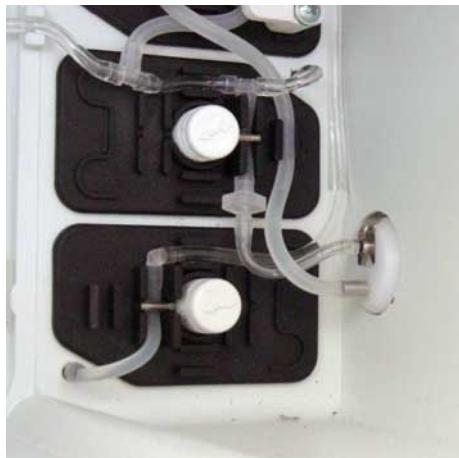

Fig. 4-1 AutoQC tubing connections
5. Pull off the two tubes from the AutoQC docking part (see Fig. 4-1).